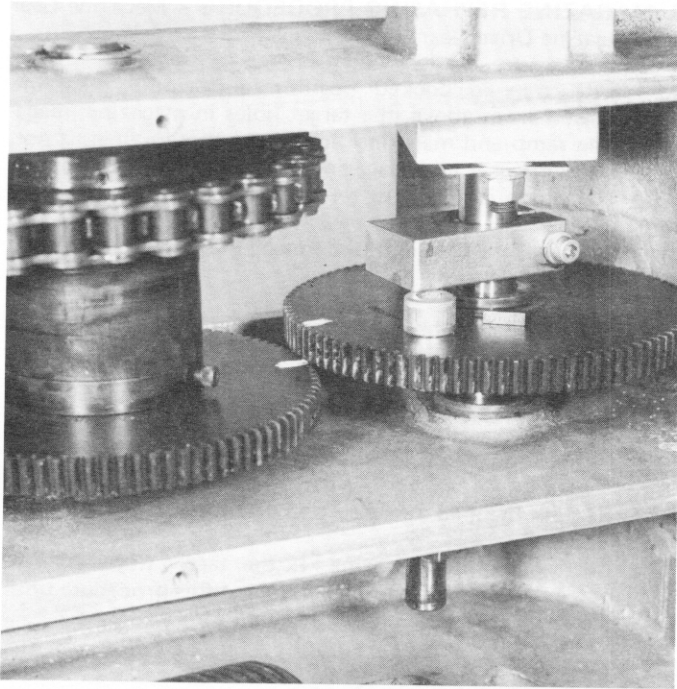

Figure 20 — Unmeshing Mainshaft Gear and Cocking Clutch Gear
- G. The mainshaft gear can now be lifted out of mesh with cocking clutch gear and rotated to approximate position required (see Figure 20).